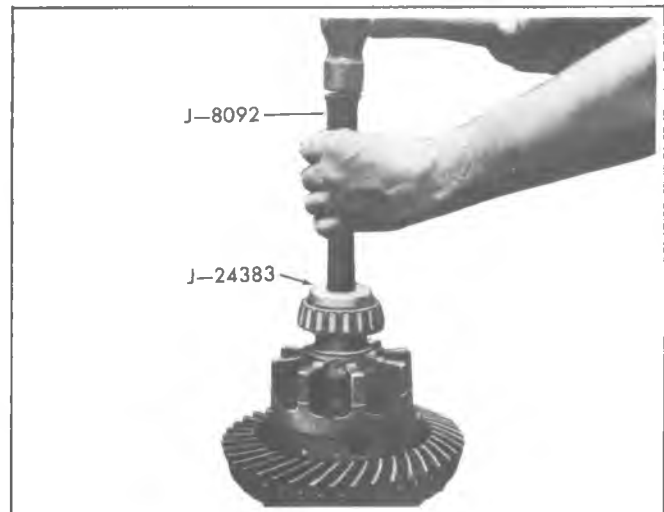

Fig. 7F-Installing Side Bearing
8. Place side bearing into position and install, using tools J-8092 and bearing installer J-24383 as shown in figure 7F.